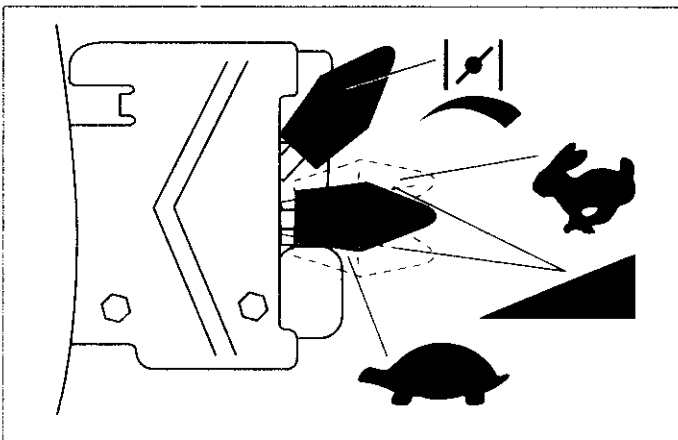

Figure 15. Start/Choke Control Position
2. Move Engine Throttle Control to "CHOKE" or "START" position if present (see equipment manufacturer's instructions). See Figures 15, 16 or 17.
If restarting a warm engine after a short shutdown, move Engine Throttle Control to "FAST" instead of "CHOKE" or "START" position. See Figures 15, 16 or 17.
- b. Move Engine Throttle Control to "FAST" position. See Figures 15, 16 or 17.
2. Move Engine Throttle Control to "CHOKE" or "START" if present (see equipment manufacturer's instructions). See Figures 15, 16 or 17.
2. Move Engine Throttle Control to "FAST" if present (see equipment manufacturer's instructions). See Figures 15, 17 or 18.
2. Move Engine Throttle Control to "CHOKE" or "START" position if present (see equipment manufacturer's instructions). See Figures 15, 17 or 18.
If restarting a warm engine after a short shutdown, move Engine Throttle Control to "FAST" instead of "CHOKE" or "START" position. See Figures 15, 17 or 18.